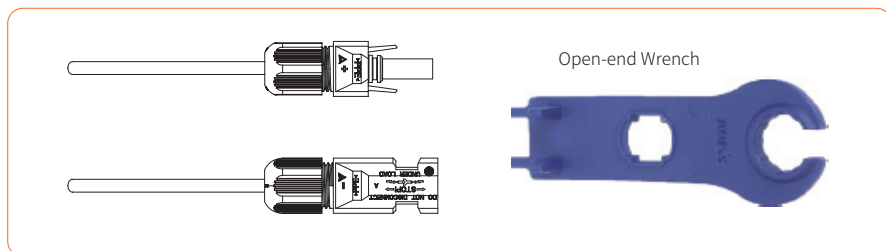

Figure 4-17
⑤ Insert the positive and negative cables into the corresponding positive and negative connectors, pull back the DC cable to ensure that the terminal is tightly attached in the connector.
⑥ Use an open-end wrench to screw the nut to the end to ensure that the terminal is well sealed, as shown in Figure 4-17: